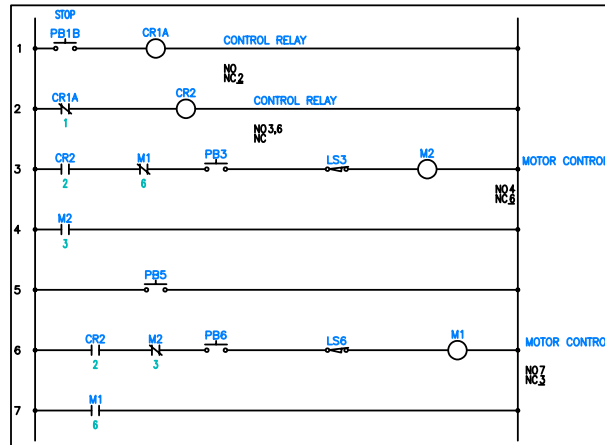

Figure 6-51 M2 moved to a different location
- Enter **13,13** at the Command prompt and press ENTER; M2 is moved to a new location in rung 6, as shown in Figure 6-51.